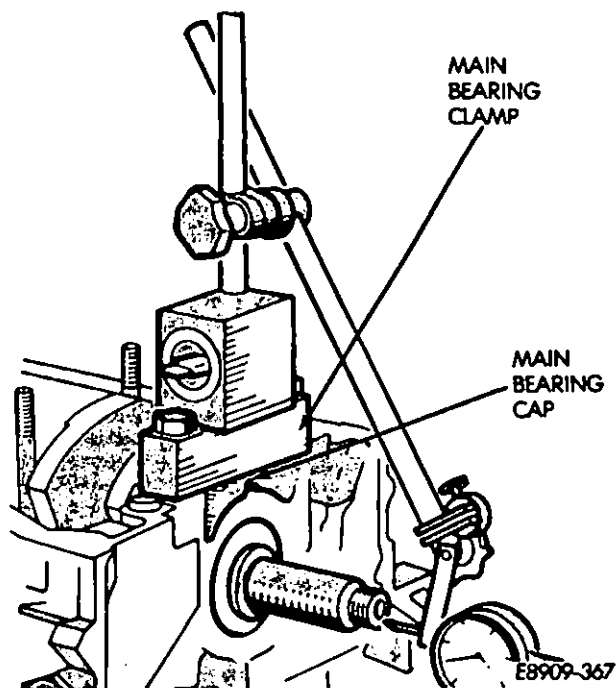

Fig. 23—Main Bearing Cap with Clamp
(12) Install the front and rear main bearing caps with the tabs facing the crankshaft pulley end of the engine (Fig. 23).
(13) Install the main bearing clamps (Tool 6071) over the main bearing caps (Fig. 23). Use four of the lower casing mounting nuts to hold them in place. Tighten the nuts to 30 N·m (20 ft-lbs) torque.
(14) Place a magnetic base dial indicator onto the front main bearing cap clamp. Position the gauge against the front end of the crankshaft.
(15) With the crankshaft pushed towards the flywheel end, set the gauge to zero.
(16) Push the crankshaft towards the crankshaft pulley end of the engine until it stops.
(17) Check the amount of end play indicated on the dial. It should be between 0.07 mm and 0.27 mm (.003 in and .011 in).
(18) If the end play is not within this range use